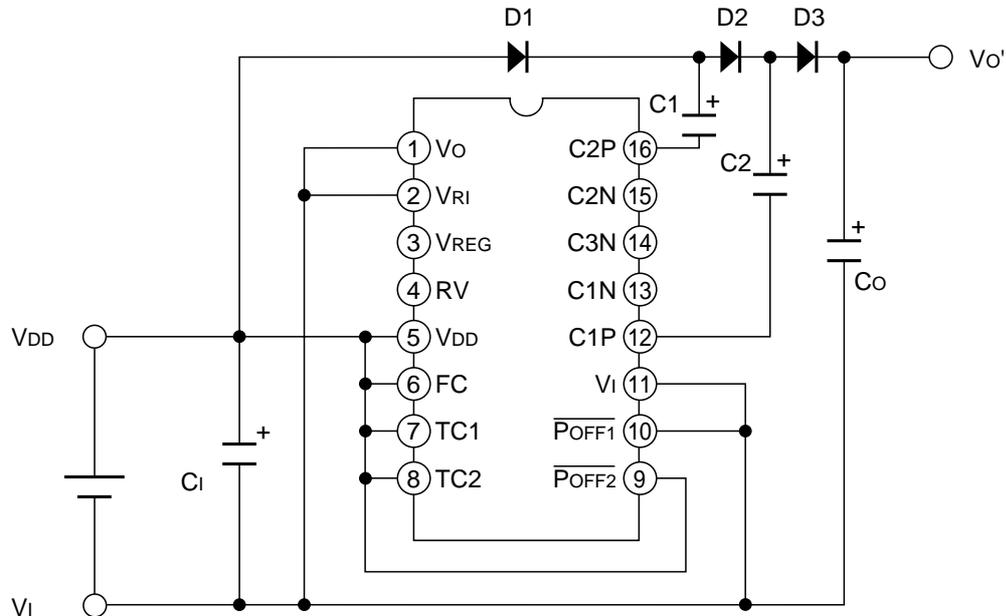

Figure 2.14 Wiring example of positive voltage conversion (3-time boosting)
The S1F76540 can also boost up a voltage to the positive potential using external diodes. In such case, however, the regulator function is unavailable. Figure 2.14
- ◇ Setup conditions of Figure 2.14
- To boost up a voltage two times, remove capacitor C1 and diode D1 of Figure 2.14, and connect the anode of diode D2 to the VDD pin.
- When diodes are used for voltage boosting, the characteristics of diodes directly affect on the voltage boosting characteristics. The forward voltage drop ( $V_F$ ) of diodes can reduce the booster output voltage. As the example of Figure 2.14 uses three diodes, the drop of “ $V_F$ ” voltage multiplied by three occurs. The booster output voltage is expressed by equation (5).